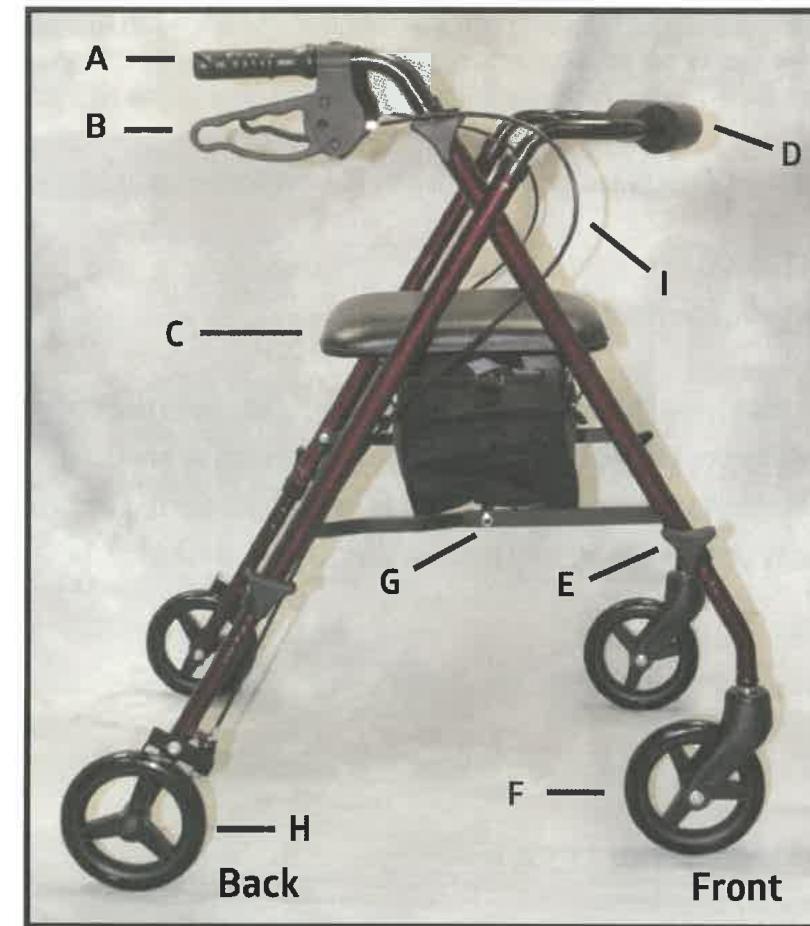

Figure 1
1. Carefully remove the rollator components from the shipping carton. Refer to diagram (Figure 1) as needed.
4. Unfold the Guardian Rollator by pushing down on the Folding Hinge (G): Figure 1, pg 4 until the frame is in full extension.
Push down on the seat (C): Figure 1, pg 4 until all four wheels are extended out and the seat is completely flat. Before using the rollator make sure that all four wheels make contact with the floor and the rollator is stable in the open position.